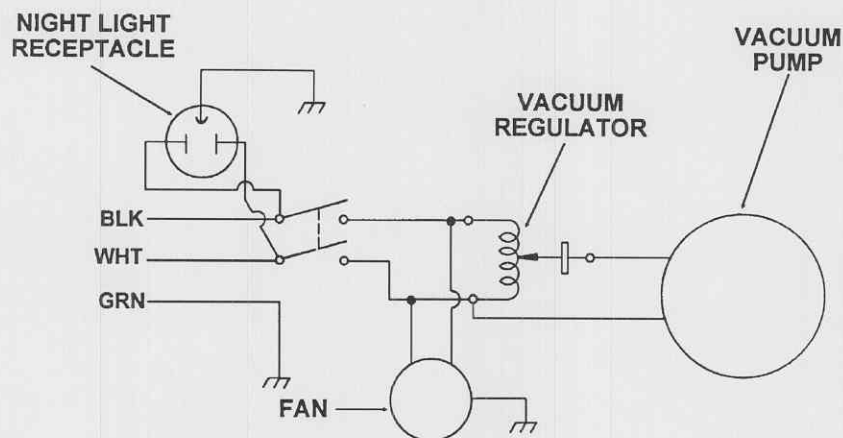

Figure 3-5. Electrical schematic.
b. An electrical schematic for troubleshooting is provided in figure 3-5.